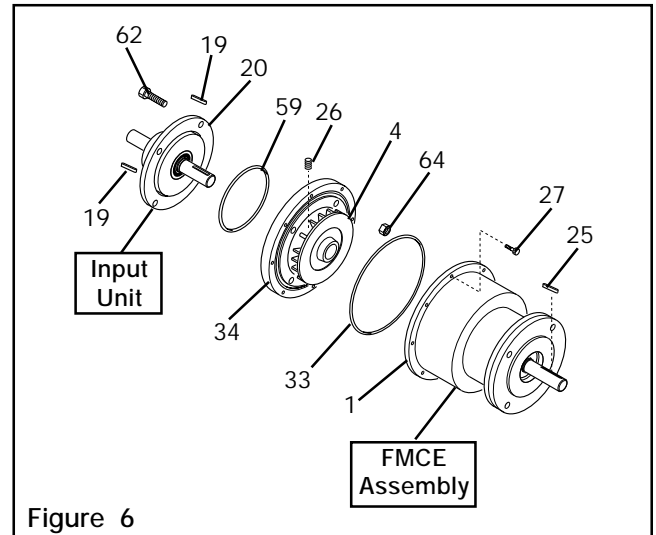

Figure 6
1. Remove the eight Hex. Head Cap Screws (Item 27); then, separate the Female Pilot (Item 34) and Drive Disc (Item 4) from the FMCE Assembly (See Figure 6).
2. Coat the O-ring Seal (Item 59) and the seal contact surface with a film of O-ring lubricant, then wipe off any excess lubricant (See Figure 6).
3. Place the O-ring Seal (Item 59) into the seal groove of the Input Unit Bearing Flange (Item 20) (See Figure 6).
5. Using four Nexen supplied 0.375-16 x 1.250" Hex. Head Cap Screws (Item 62) and Nuts (Item 64), secure the Female Pilot and Drive Disc to the Input Unit (See Figure 6).
7. Tighten the Set Screw (Item 26) to lock the Drive Disc (Item 4) onto the Input Unit shaft (See Figure 6).
8. Coat the O-ring Seal (Item 33) and the seal contact surface with a film of O-ring lubricant, then wipe off any excess lubricant (See Figure 6).
10. Slide the FMCE Assembly onto the Female Pilot (Item 26) and the Drive Disc (Item 4) (See Figure 6).
11. Using eight 0.250-20 x 0.875" Hex. Head Caps Screws (Item 27), secure the FMCE Assembly to the Female Pilot and Drive Disc (See Figure 6).